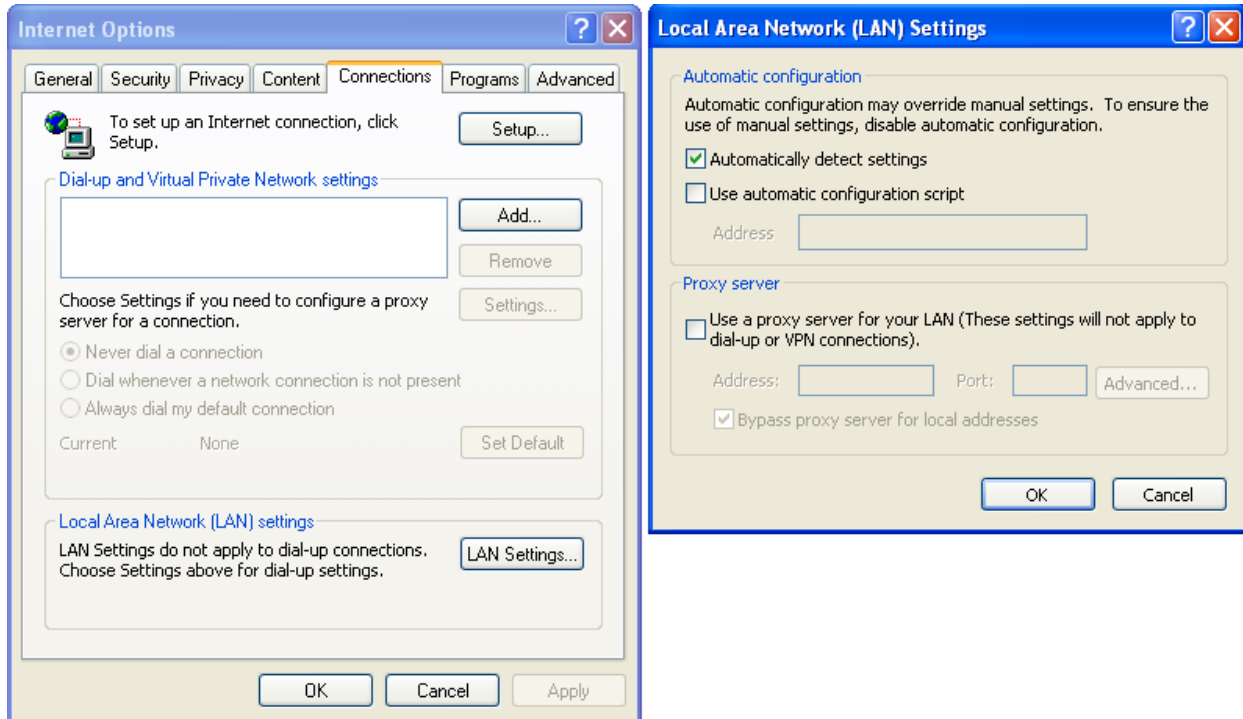

Figure 4-2: LAN Settings
7. Open a web browser and ensure all PROXY SERVERS are disabled. Proxy server settings can be checked by navigating within the Internet Explorer **TOOLS ► INTERNET OPTIONS ► CONNECTIONS ► LAN SETTINGS** as shown in Figure 4-2.